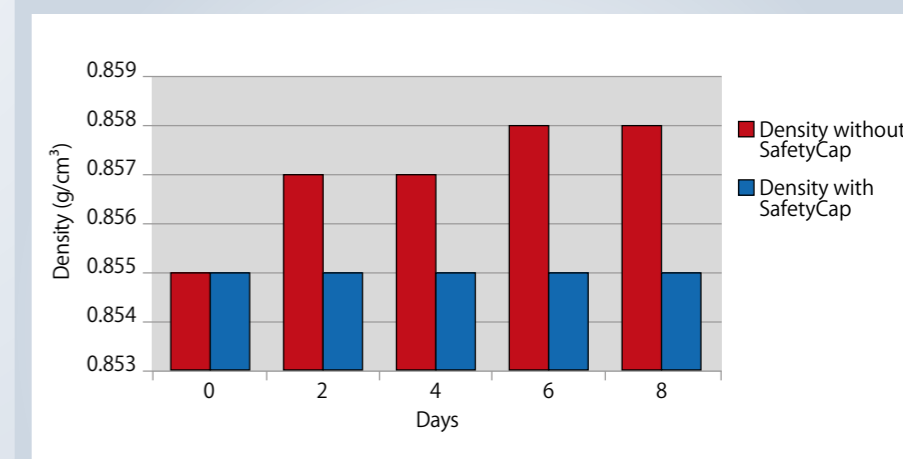

Fig. 1 Changes in the density of a methanol/water mixture
0.855 g/cm³ of the solvent mixture rose to a density of 0.858 g/cm³ (Fig.1). An increase in density indicates that there has been a greater loss of methanol than of water from the mixture. This loss did not occur in the same mixture ratio.